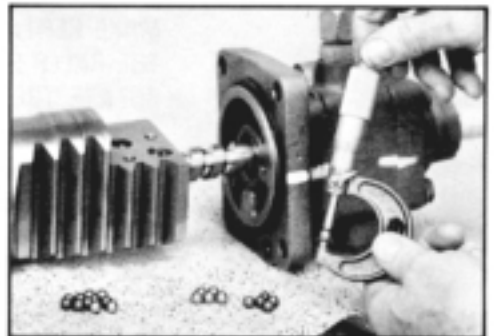

Figure 130
**NOTE:** If the original set of 22 balls are being reassembled, they must be segregated by micrometer measurement into a group of 11 large balls (34A) and a group of 11 smaller spacer balls (34B). The small spacer balls were originally colored black for identification as are the spacer balls in a service ball kit. The set of **original large (working) balls** will measure .0005 inch (.01270 mm) larger than the spacer balls. SEE FIGURE 130.